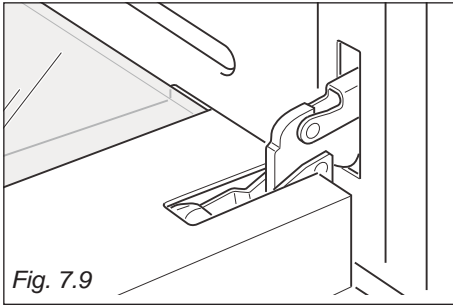

Fig. 7.9
- Open the door to the full extent (fig. 7.9).